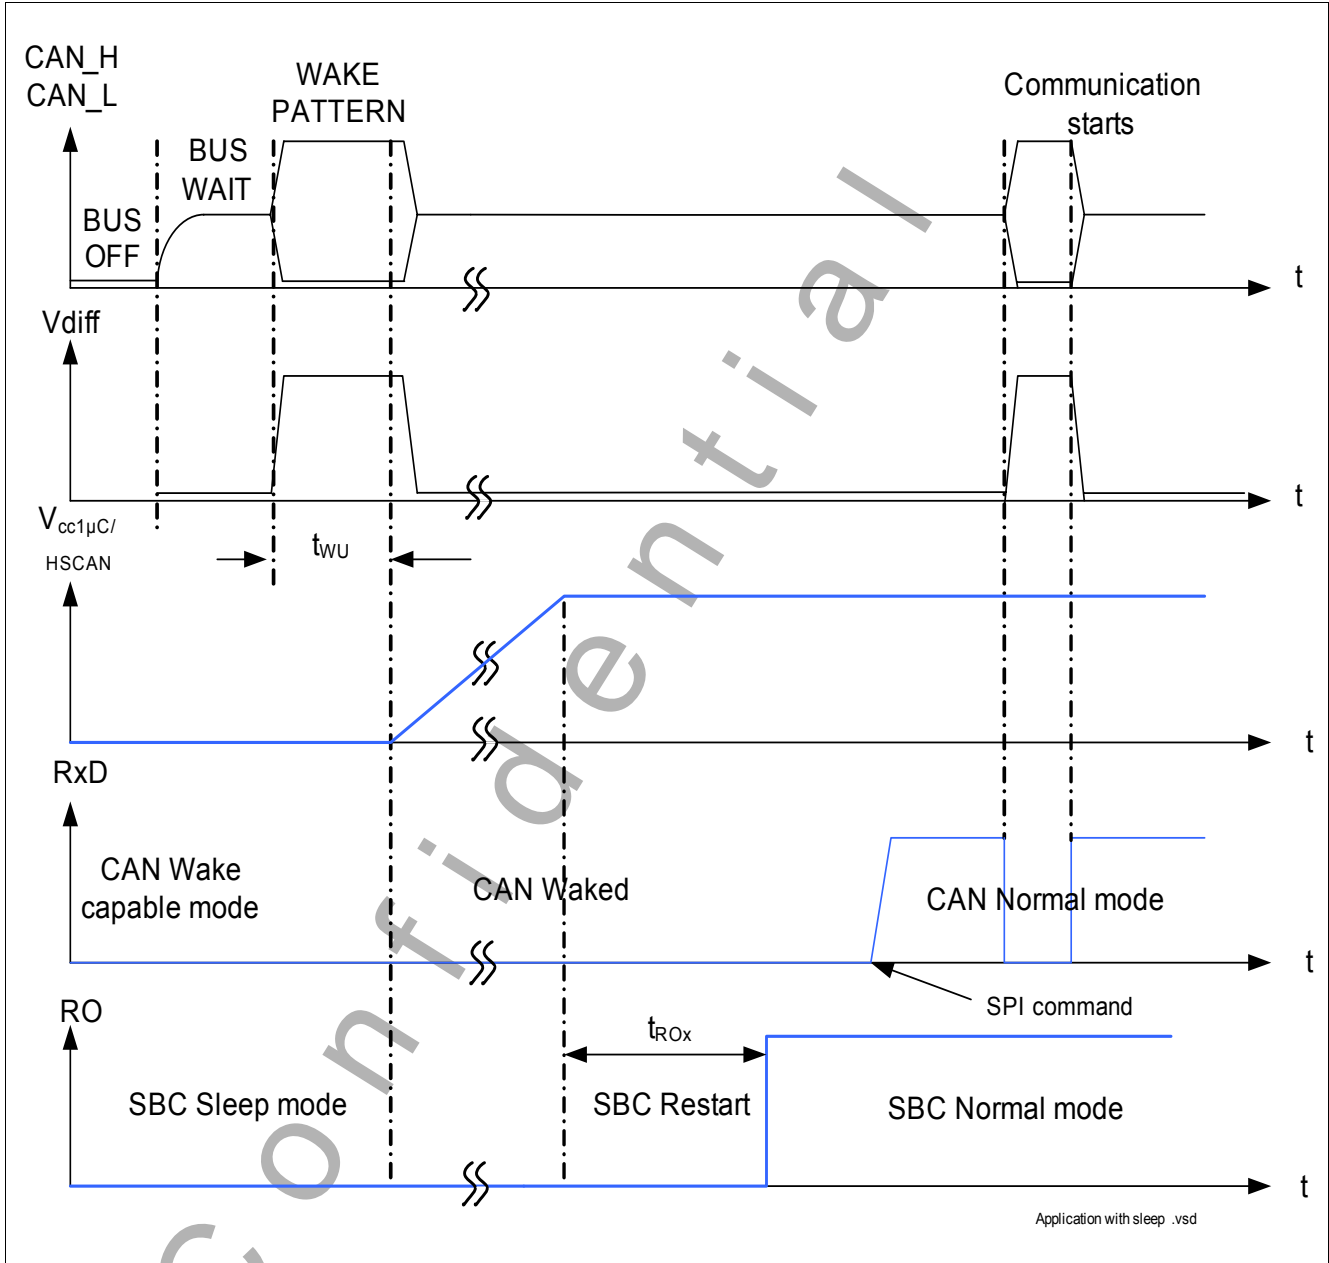

Figure 11 Timing during Transition from Sleep to Normal Mode
Refer to Figure 11 for a description of the matching of the transceiver modes with the SBC mode.
Wake-up is possible via a CAN message (filtering time $t > t_{WU}$), it automatically transfers the SBC into the SBC Restart Mode and from there to Normal Mode the RxD pins in set to LOW, see Figure 11. The microcontroller is able to detect the low signal on RxD and to read the wake source out of the “Wake Register Interrupt” register (000) via SPI. No Interrupt is generated when coming out of Sleep Mode.
In SBC Sleep Mode, a wake-up on the CAN cell will set the SBC to Restart Mode automatically if the CAN Wake Capable Mode of the SBC is selected via SPI. Figure 11 shows the typical timing.